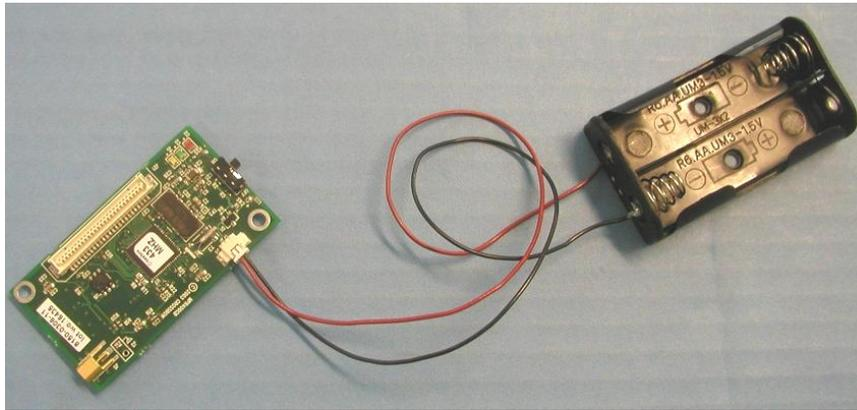

Figure 4-4. Photo of using the Molex connector to attach the AA battery pack. Photo courtesy of Nick Sitar, UC Berkeley, 2004.
2. The 2-pin Molex connector. Molex part number 53261-0290, Digi-Key part number WM1753-ND. (See Figure 4-4 below.)